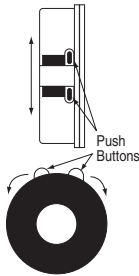

Figure 5
- ① Fully depress both limit switch push buttons. Operate switch to make sure system works properly.
- ② Raise shade to desired "up" stop position.
- ③ Set upper limit by depressing and releasing the proper push button (see Fig. 5).
- ④ Lower shade to desired "down" stop position.
- ⑤ Set lower limit by depressing and releasing the proper push button (see Fig. 5).